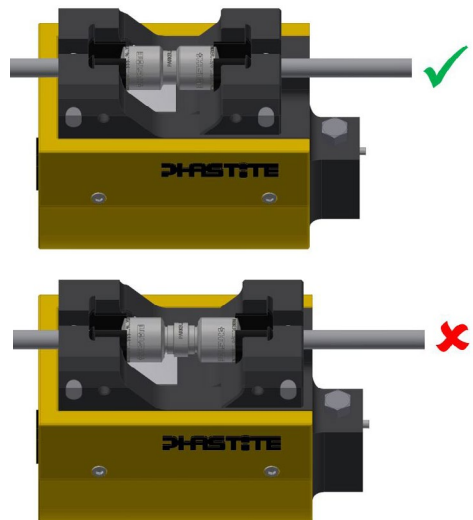

Figure 41
8. The pump will automatically shut-off on complete assembly of the Phastite® connector. However, it is good practice to WATCH FOR METAL-TO-METAL CONTACT. Metal-to-metal contact is achieved when the Phastite® collar and body are touching (Figure 41).